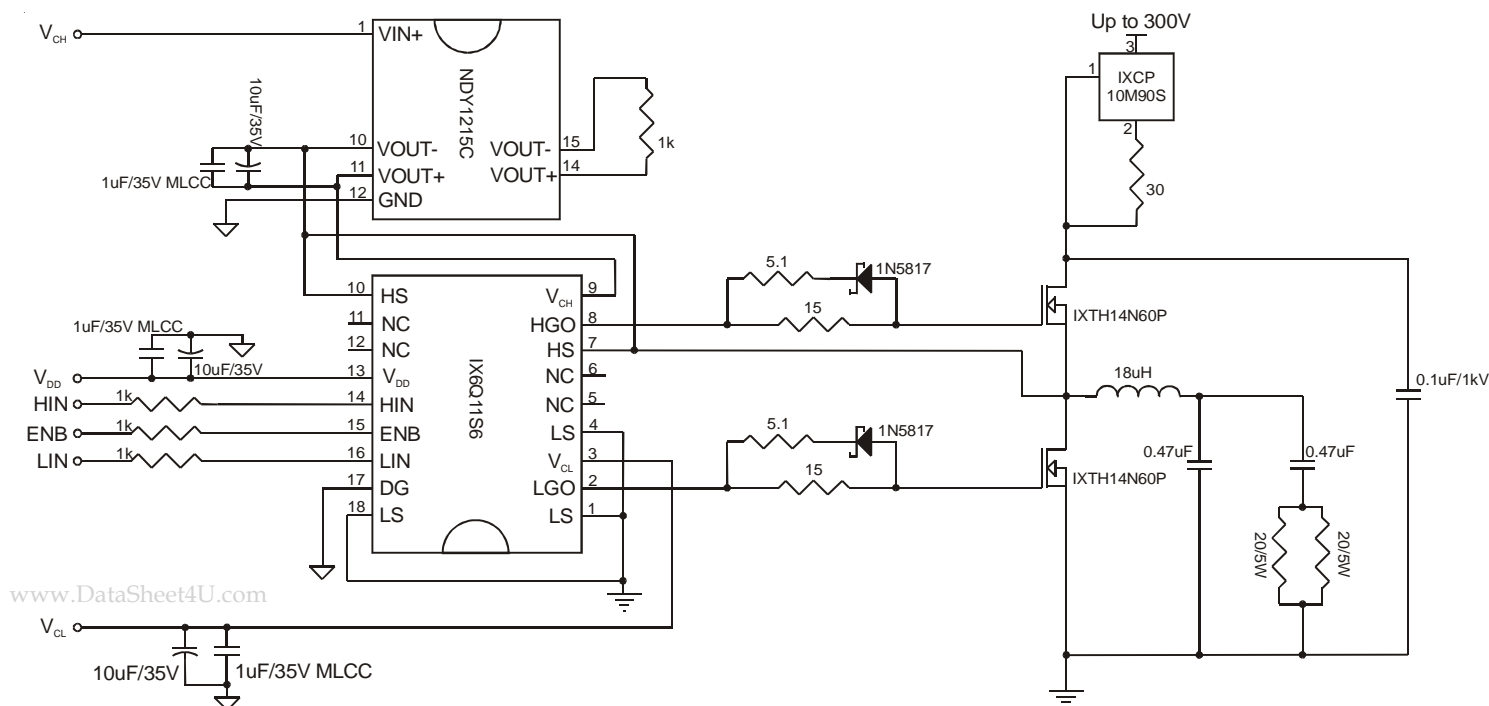

Figure 9. Test circuit for high frequency, 750kHz, operation.
* Operational voltage rating of 300V determined in a typical half-bridge circuit configuration (refer to Figure 9).